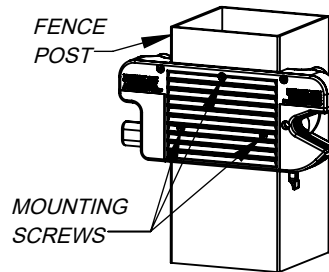
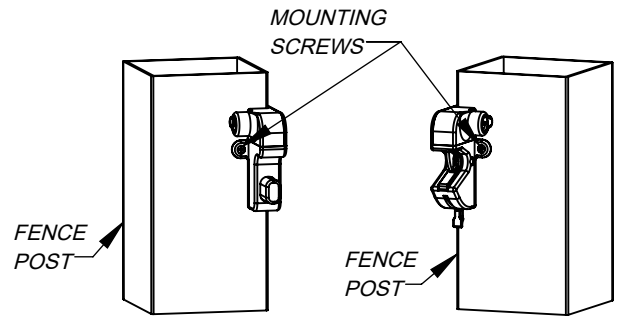
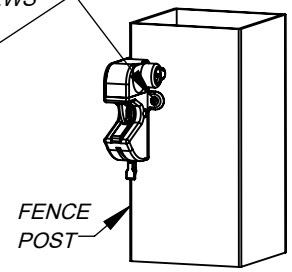

Figure 5
Figure 6
Figure 7
Hold latch at desired height on the fence post. Install (3) flat head mounting screws into the side of the latch (Figure 5). Install (1) flat head mounting screw in button housing (Figure 6). Install (1) flat head screw into latch housing (Figure 7).